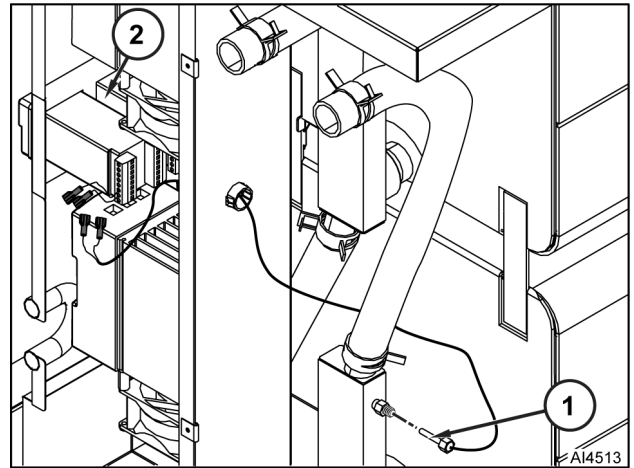

Fig. 43
- Disconnect sensor probe (1, Fig. 43 wires from PID controller (2) leads.
- Remove sensor probe (1) from sensor tube.